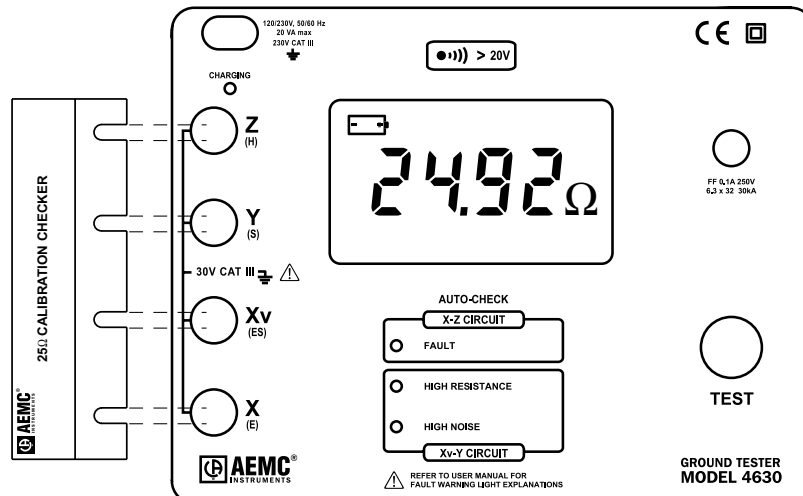

Figure 21
- Insert the calibration checker as shown in Figure 21.
If a check performed on the Model 4630 or 4620 displays a reading between 24.1 Ω and 25.9 Ω (as in Figure 21), the instrument is in good working condition. The readings are for an ambient temperature between 68° and 79°F (25°C \pm 3°C).